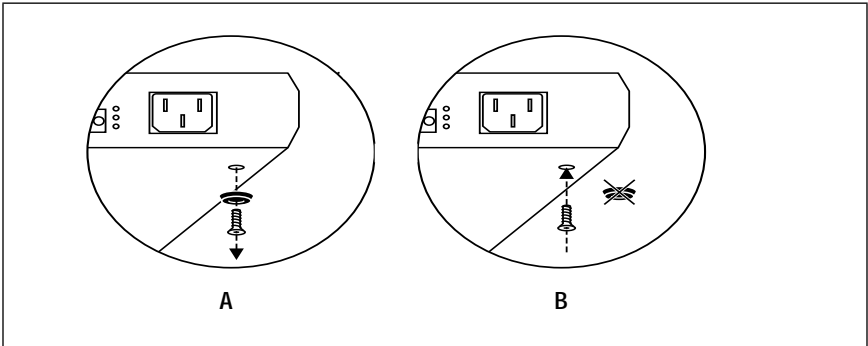

Figure 11: Removing the Rubber Feet
4. Remove the four screws and rubber feet from the bottom of all modules as shown in Part A of Figure 11.
5. Re-install the same four screws you removed in Step 4 without the rubber feet, as shown in Part B of Figure 11.
Refer to Figure 11 on page 14 for an example.